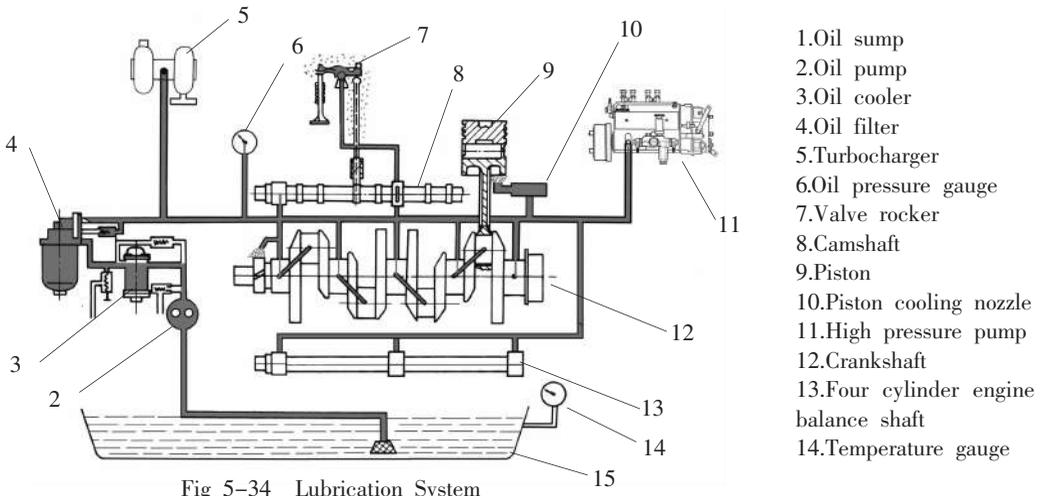

Fig 5-34 Lubrication System
4.1 Pressure-splash lubrication is used for YTO series engines. Lubrication system can make the moving parts get good lubrication so as to reduce friction power loss and parts excessive wear, and carry away heat and scraps caused by friction, and purify the lubrication continuously (see Fig 5-34).